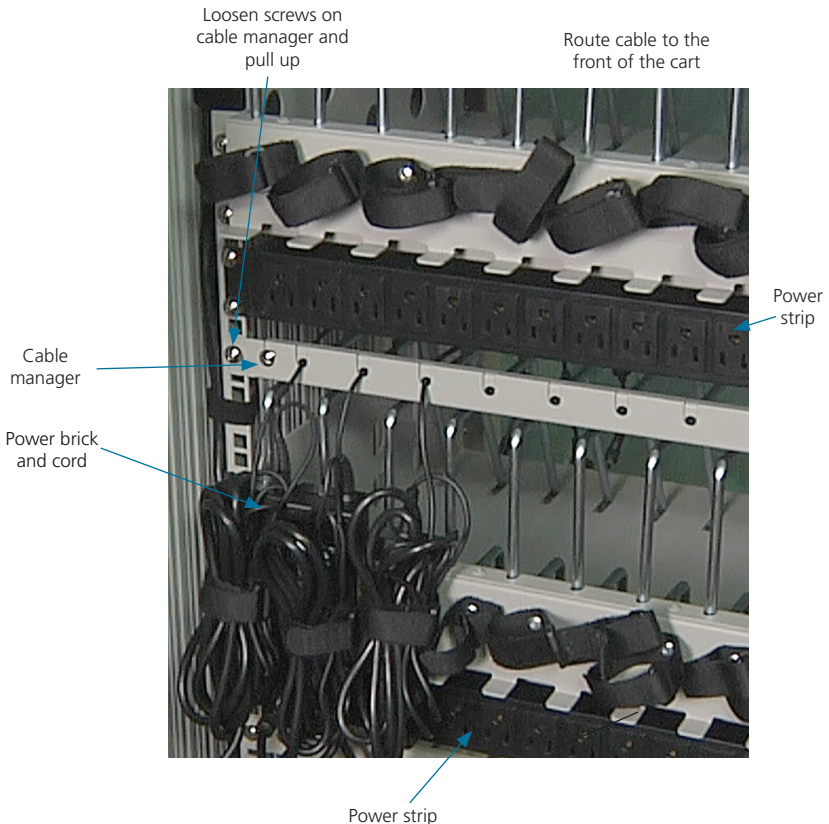

Figure 4-2. Fastening the power brick and routing the cable.
1. Attach the wrapped cord and power brick to the back of the shelf using the hook and loop strap. Keep some extra cable unwrapped to plug into the power strip. (See Figure 4-2.)